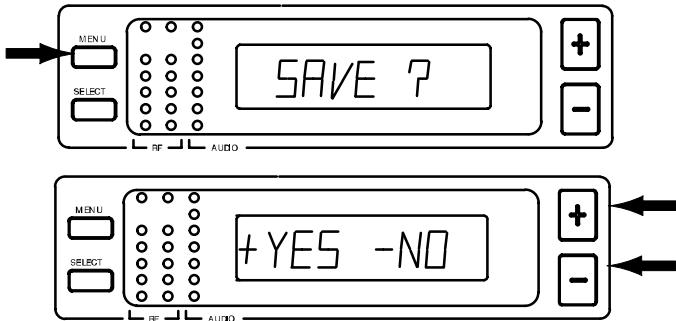

FIGURE 28
- Once you have reached the desired squelch level, press the MENU button. “SAVE?” appear, followed by “+ YES – NO”, as shown in Figure 28. Press the – button to make more changes, or press + to save the new squelch setting and return to the Group/Channel/TV display.